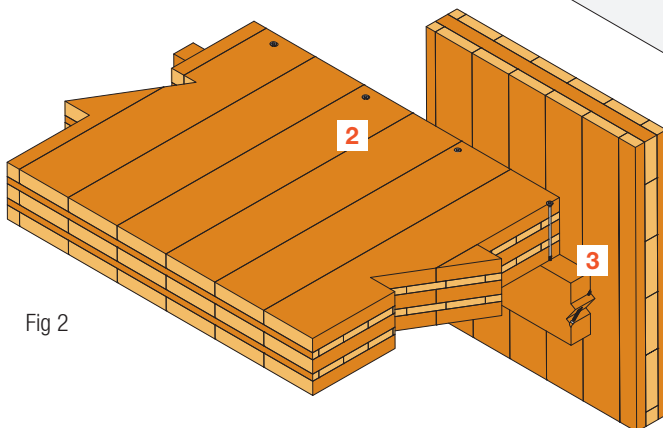

Fig 2
- Timber substrate: preferably use timber screws, such as **ESCR**, **ESCRC**, **ESCRFTC**, **ESCRFTZ** and **SWD** (Fig 2).